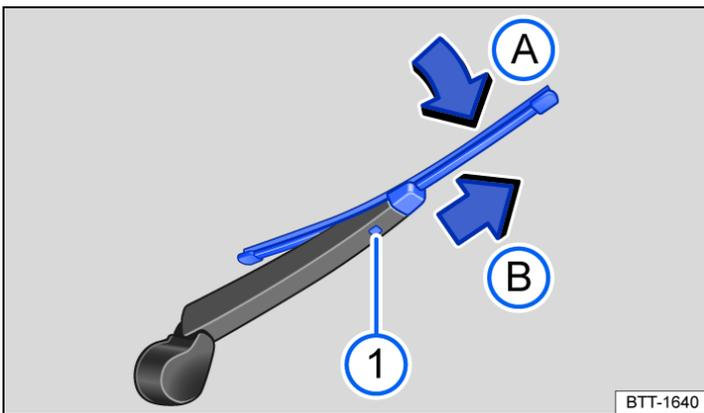

Fig. 2 Changing the rear window wiper blade.
- Press and hold the release button → Fig. 2 ①.
- Tilt the wiper blade in the direction of the wiper arm → Fig. 2 (arrow **A**) and pull it off in the direction of the arrow **B** at the same time. You may need to use some force to do this.
- Insert a new wiper blade with the same length and design onto the wiper arm against the direction of the arrow. Push it on until it engages → Fig. 2 (arrow **B**). The wiper blade must be in the folded back position → Fig. 2 (arrow **A**).